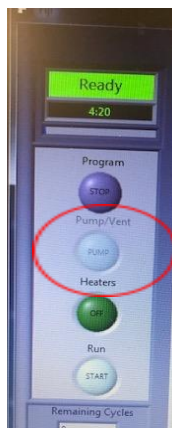

Figure 6: Pump Button
- 9.5.6. Select “Pump” **Figure 6**.